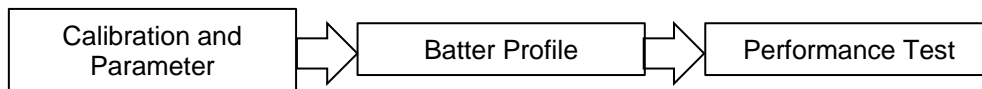

Figure 3: Battery Profile Process with the PPM
The SOCF algorithm is based on battery profile data which can be generated using DA9070 Fuel Gauge (FG) demo board and the PPM. The battery profile process with the PPM consists of three sub-processes, see Figure 3. It is recommended that all processes are performed at room temperature for accurate data, measurement, and comparison.